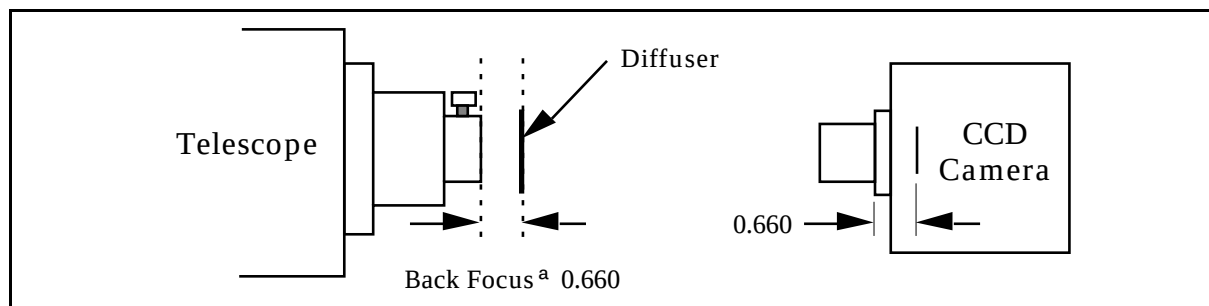

Figure 2.2 - Camera Back Focus
Q. What is the back focus of the camera? A. Please refer to Figure 2.2.